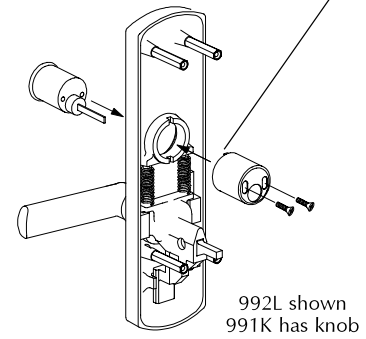

Figure 1
4. For L and K trim only (not L-BE or K-BE), install rim cylinder (Figure 1). Do not use cylinder collar.